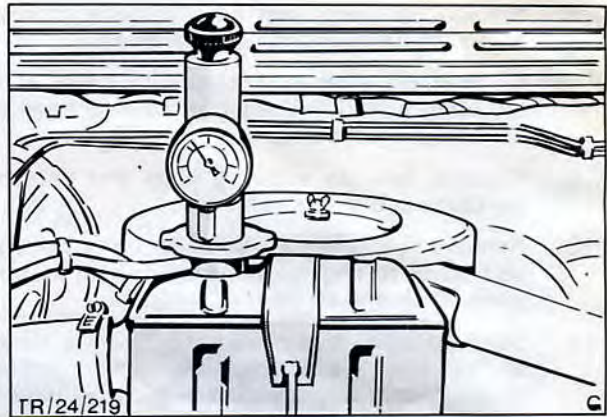

Fig. 31. Cooling system pressure test
3. Fit correct adaptor to pressure tester and clip in position onto filler neck, Fig. 31. Pump up cooling system to a maximum of 1,40 Bar (1,40 kg.cm²) (20 lb.in²) and hold for ten seconds. If pressure drops within this time inspect for leaks.